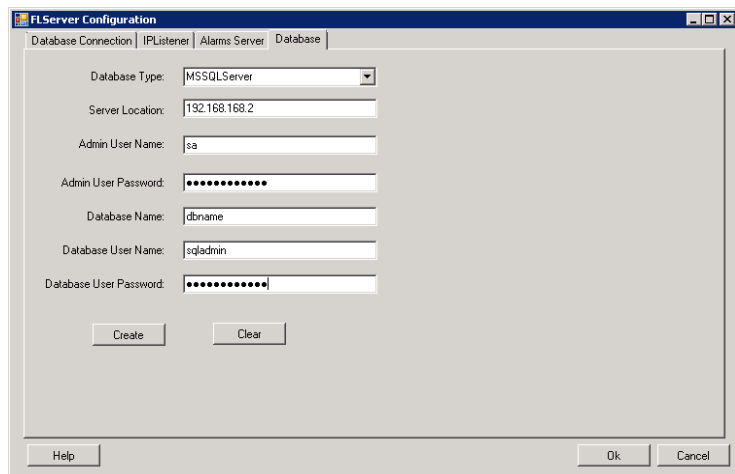

Figure 3-1 Database creation
1. Click on the Database tab (Figure 3-1).